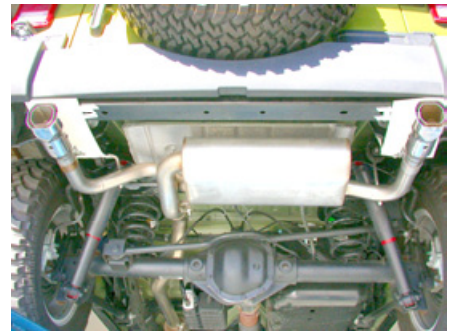

Figure 3
1. Place a clamp over the expanded end of the muffler assembly and set it into position as shown in figure 3. Do Not tighten the clamp.